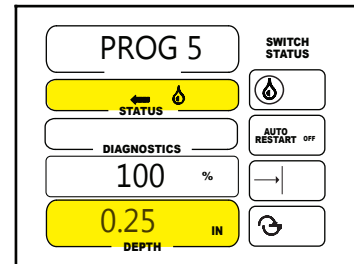

Figure 62-3
3. Set water on and depth of water for the sector. See figure 62-3.